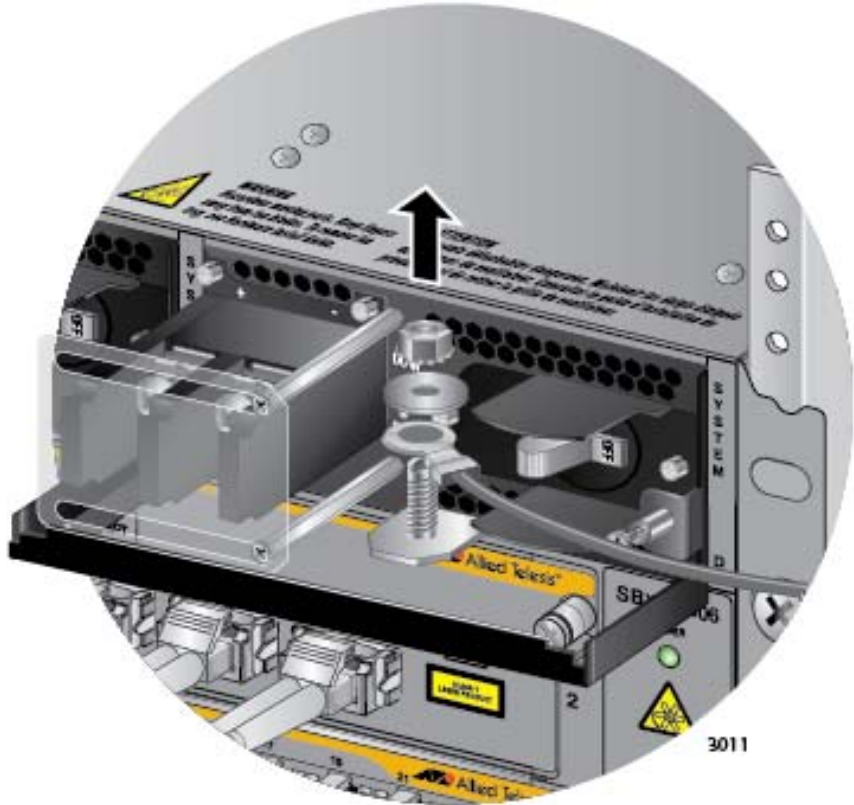

Figure 167. Removing the Grounding Wire
9. Use an 8 mm wrench to remove the grounding wire from the grounding post. Refer to Figure 167 on page 269.